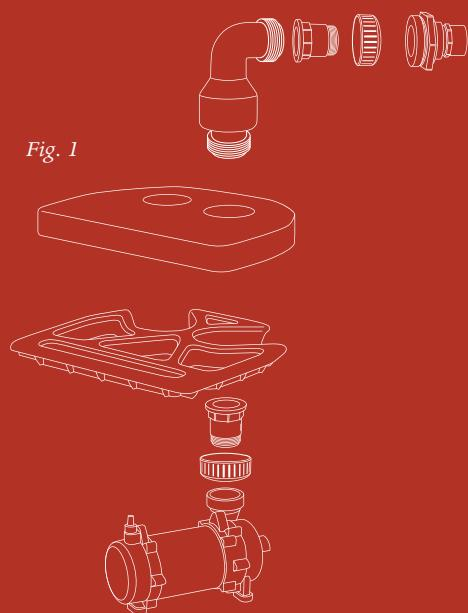
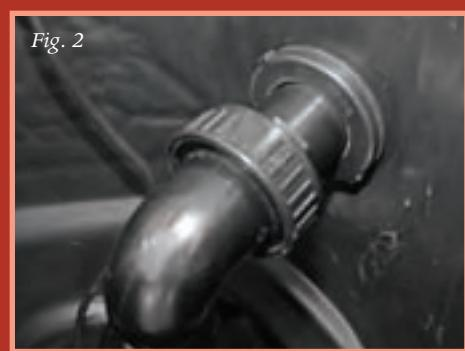

Fig. 1
Fig. 2
- The Signature Series™ check valve comes with two adaptors that replace the standard PVC pipe sockets on each end of the check valve (See Fig. 1). One adaptor threads directly into the pump, the other threads directly into the bulkhead on the back of the skimmer that supplies water to the BIOFALLS® filter (See Fig. 2 & 3). Apply silicone or Teflon tape (not included) to the threads of the fitting.